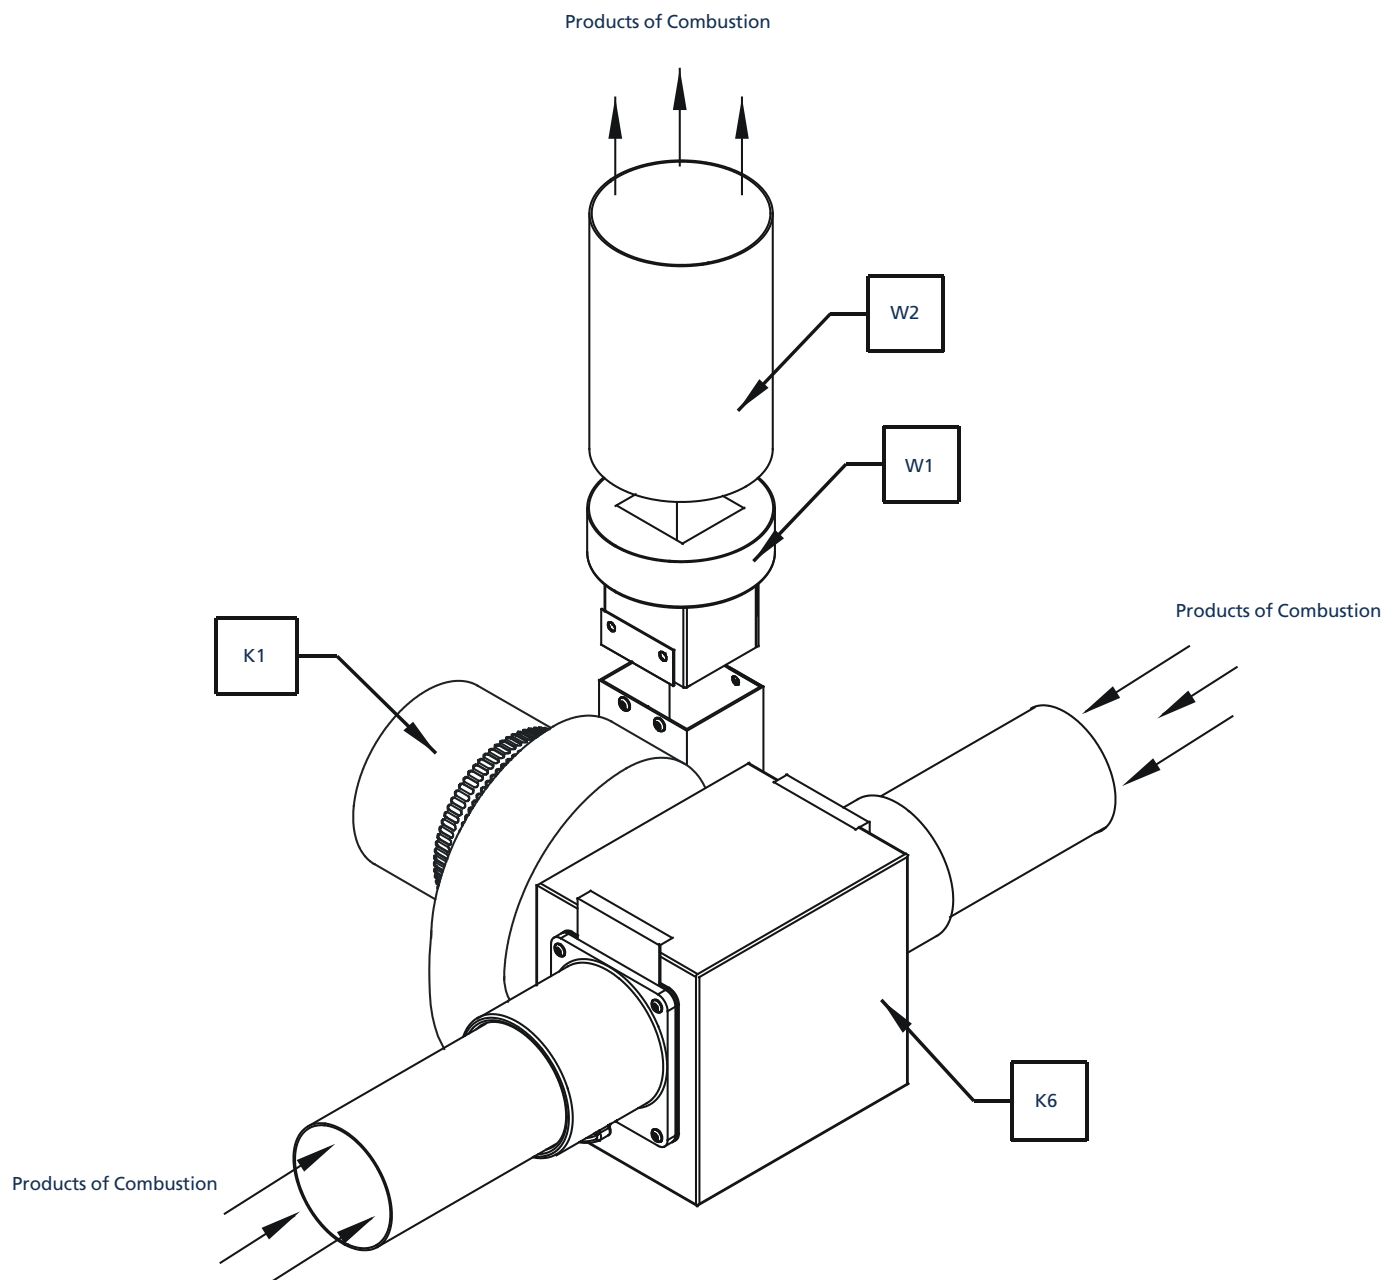

Figure 19. Option 2. Flue Attachment Induced Burners (VSDLE)
- Option 2 - For induced DLE burner with / without flue and ducted air inlet refer to Figure 19.